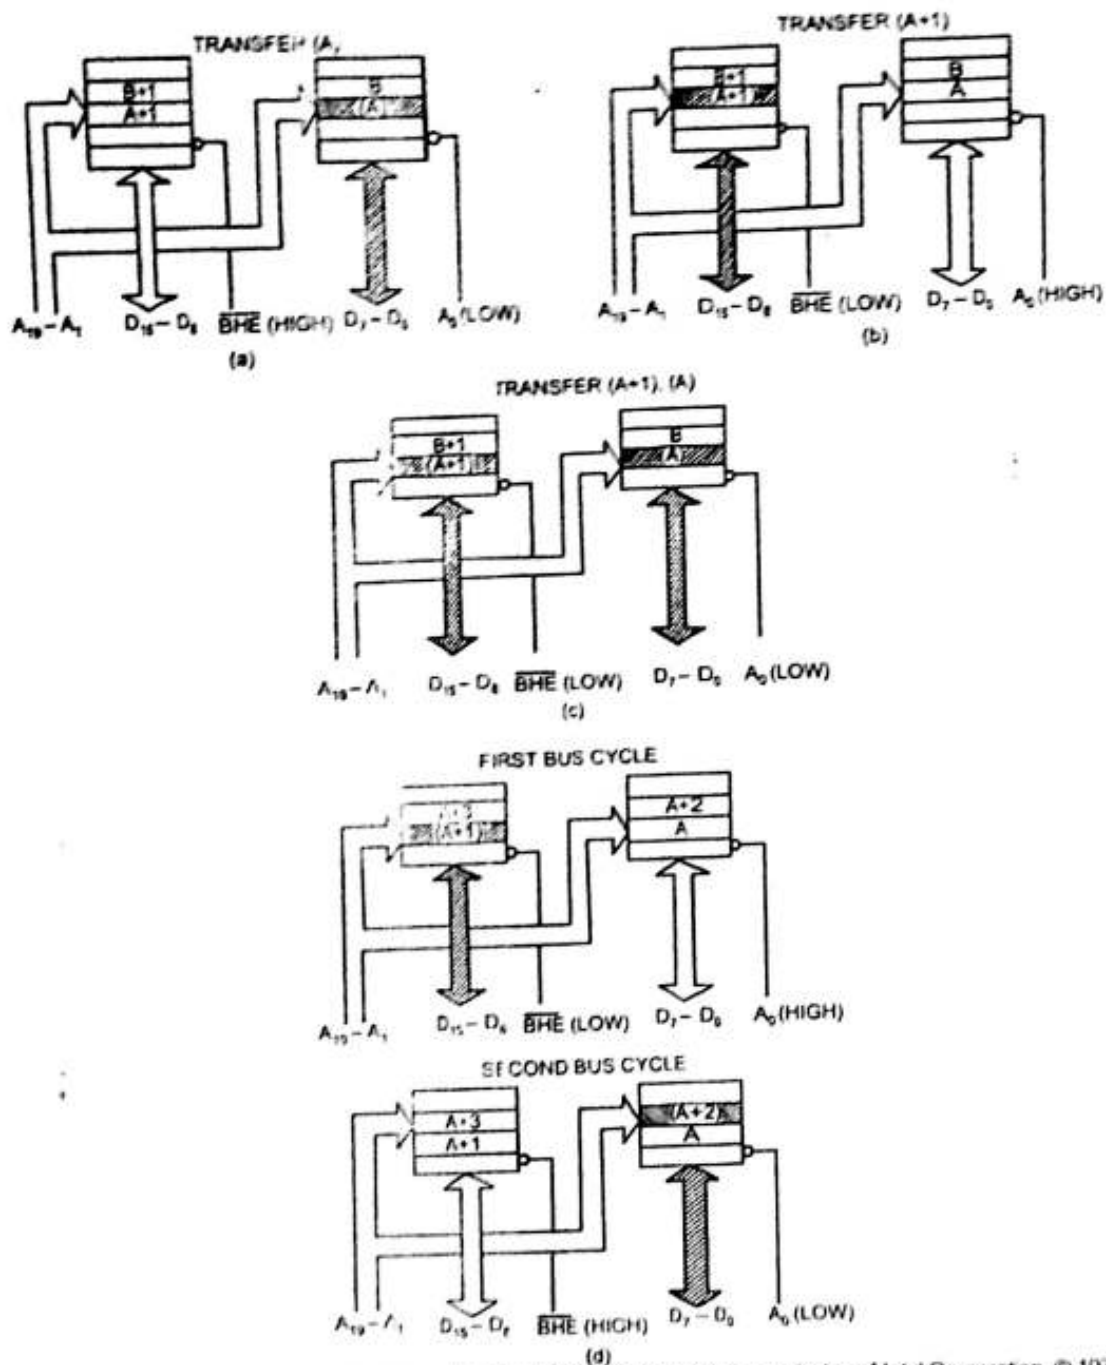

Fig. 12.6: (a) Even-addressed byte transfer by the 8086. (Reprinted with permission of Intel Corporation, © 1979)
Ans. Fig. 12.6 shows the above four cases. A, B are representing the addresses while (A), (B) represent the content of address locations A and B respectively.